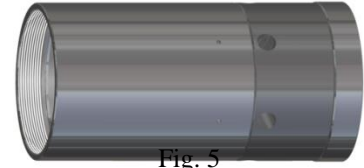

Fig. 5
L-8.5) Screw center coupling (10) into by-pass housing (20) (Fig. 5).